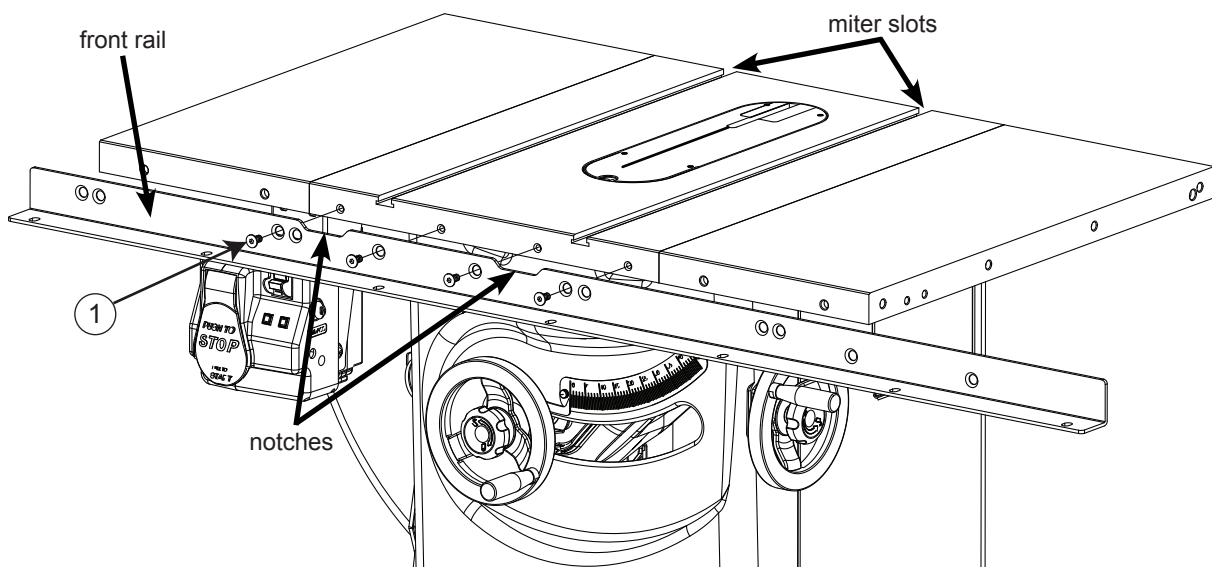

Fig. 2
2. Take the front rail (the larger of the two rails) and align it to the front edge of your saw by centering the notches in the rail with the two miter slots in the table and aligning the two holes between the notches with the two corresponding holes in the front edge of the table. Aligning the two holes between the notches aligns all the other holes used in mounting the front rail to your saw; different holes are used for different saws. When the holes are aligned, mount the front rail to the saw by taking four M8x1.25x16 flat head socket bolts and threading one into each of the four threaded holes in the front edge of the main table (see Fig. 2). Tighten the four bolts using a 5 mm hex key.